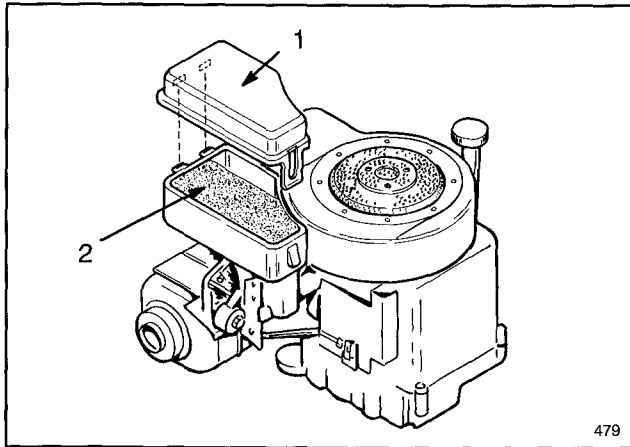

Figure 11
2. Unsnap and lift air cleaner cover off carburetor (Fig. 11).
3. Remove foam element (Fig. 11). Examine element for dirt or discoloration and clean if necessary.